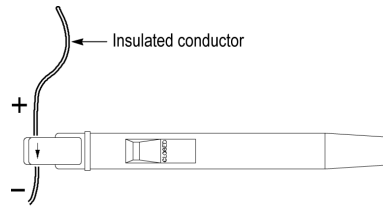

Figure 4: Polarity of Current Flow
3. Close and lock the probe jaw over the conductor. Conventional current flows from positive to negative. For the correct polarity reading, connect the probe so that the current flow, from positive to negative, is aligned with the arrow on the probe jaw. (See Figure 4 on page 8.)